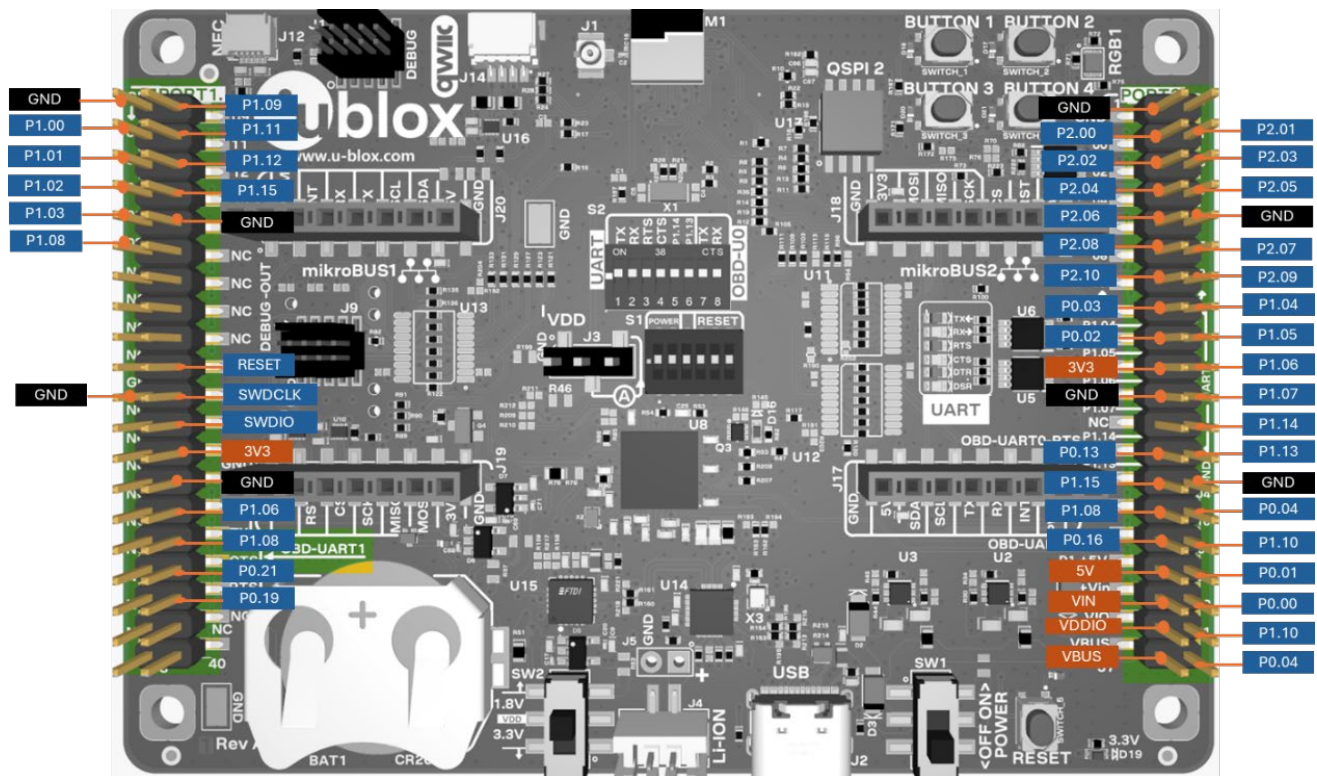
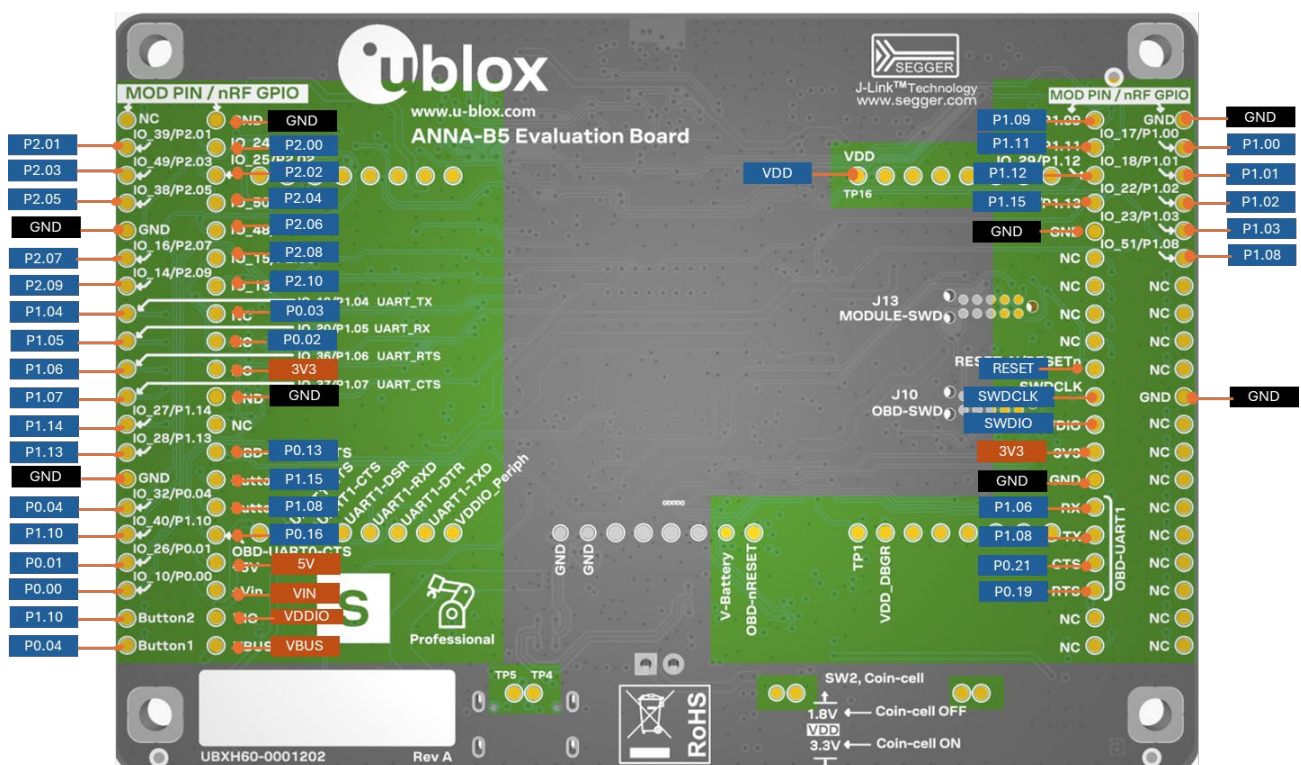

Figure 18: Pin headers J7, and J8 signaling and board view
Figure 19: Test point signaling and board view
The EVK includes pin headers (**J7** and **J8**) and test points (TP) to access the GPIOs on the module, as shown in Figure 18 and Figure 19.